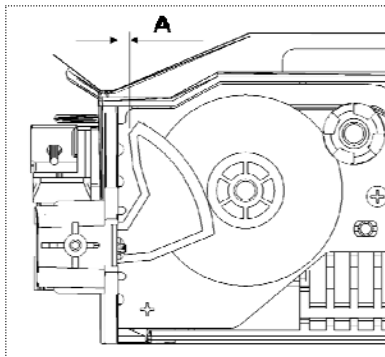

Fig. 2
If there is a clearance (A) between the gear and the plate as shown in Fig. 2, the gear condition is normal.